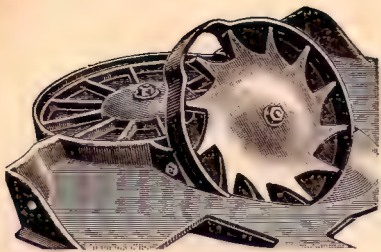

Fig. 115
**The Seed is surely put in.**—After the placing of the seed in the hopper it is then carried by means of an elevator wheel, and deposited in the corresponding pocket of the revolving feed wheel. See Fig. 115. We have found it necessary, in order to suit the different sized cuttings of the seed, to furnish three sizes of elevator wheels; one for small cut seed, Page 129; one for medium, Page 107; one for large, Page 126. The knowing of which wheel to use for the elevation of the different sized cuttings must be left to the judgment of the operator. When too much seed is deposited by the elevator wheel, use a smaller pocketed wheel; when not enough, use a larger pocketed wheel. In actual operation from sixty to seventy-five per cent. of the seed is found to be correctly fed, leaving for the feeder only the supplementing, and correcting the operation of the machine; taking out the pieces where they are doubled, and putting in where missed. This feed wheel carries each successive piece of potato over the potato tube and drops it through to the furrow below. This gives the assurance that the seed is actually deposited—there can be no speculation as to whether a row has any seed in it; there are no misses; no doubles; no trouble on hillsides. Neither can any injury result from contact of seed with fertilizer, as the former is deposited below the fertilizer, while the latter is also thoroughly mixed with the soil. **Fig. 115** clearly shows the method by which the seed is elevated and deposited into the revolving feed wheel. It is from this wheel as it revolves the boy makes the necessary corrections, taking out from its pockets one piece where there are two, and putting one piece in where there are none.